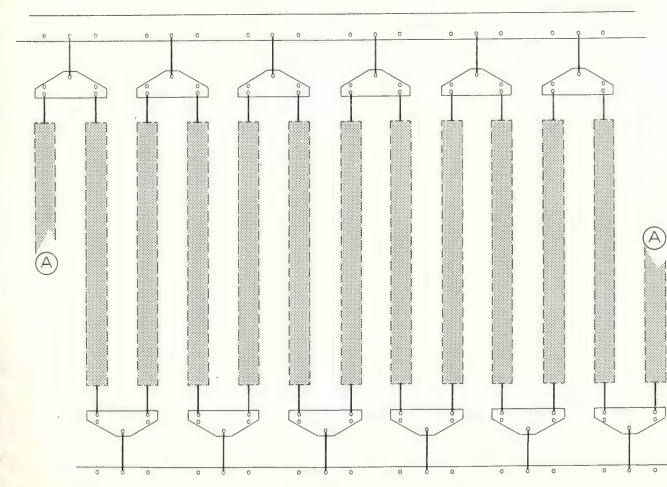

FIGURE 1
FIGURE 1 Principle of 12-string equalized deadend assembly. When brought to its customary circular form, points (A) are joined. Every string shares uniformly 1/12 the total load, regardless of any slight length variations. Mechanical failure of one string does not incapacitate the device, and less than 10 per cent increase in load is transferred to the remaining strings.
that has not previously been applied in such an elaborate form in the support of power conductors. We have trouble keeping people from christening it the "whiffletree dead-end" which we feel is somewhat undignified for such an impressive piece of equipment. If we ignore its normal circular shape and stretch it out on a flat surface it looks like Figure 1, realizing of course that points (A) are joined together in practice. It is easy to see how the load is evenly divided between all 12 insulator strings, regardless of any slight variations in string length that might exist.